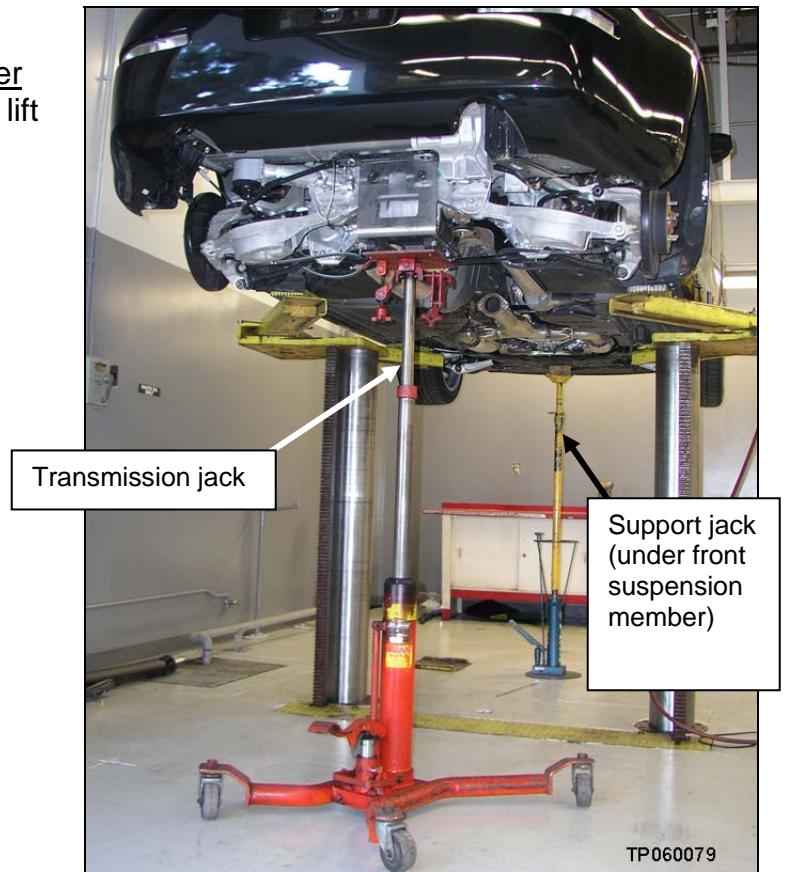

Figure 26
26. Place an additional support jack under the front suspension member to help stabilize the vehicle on the lift (see Figure 26).